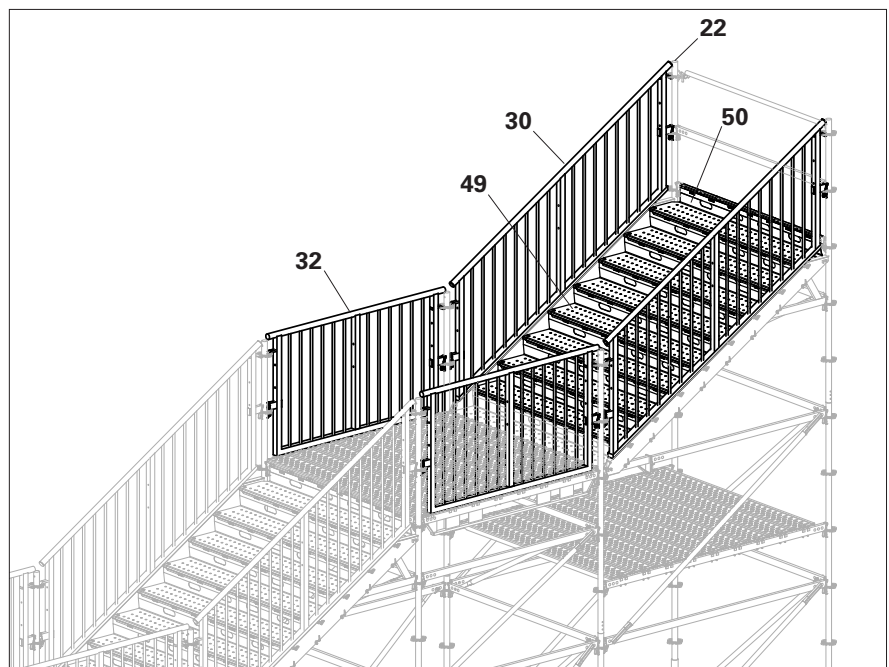

Fig. C1.23
8. Fit Plastic Caps Ø48.3mm grey (**22**) to the tube ends. (Fig. C1.23)